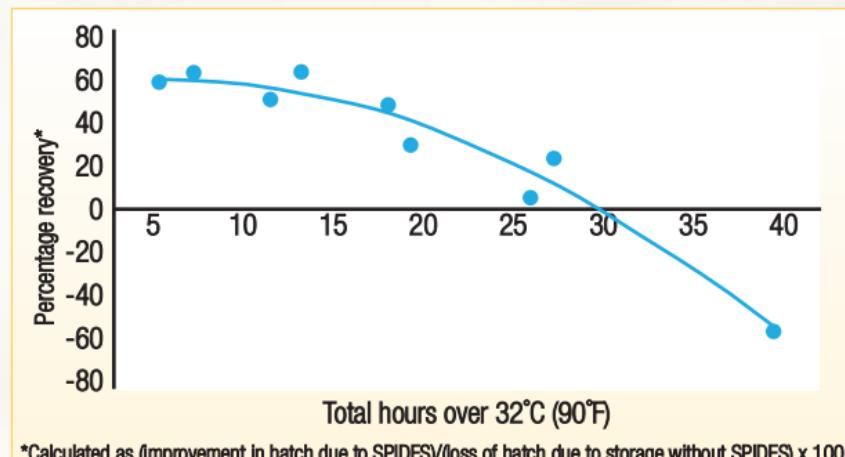

Fig. 1. How much hatch loss after storage can be recovered by SPIDES?
- Once the time above 32°C (90°F) exceeds 28-29 hours, there will be no net improvement in hatch due to SPIDES (Fig. 1).